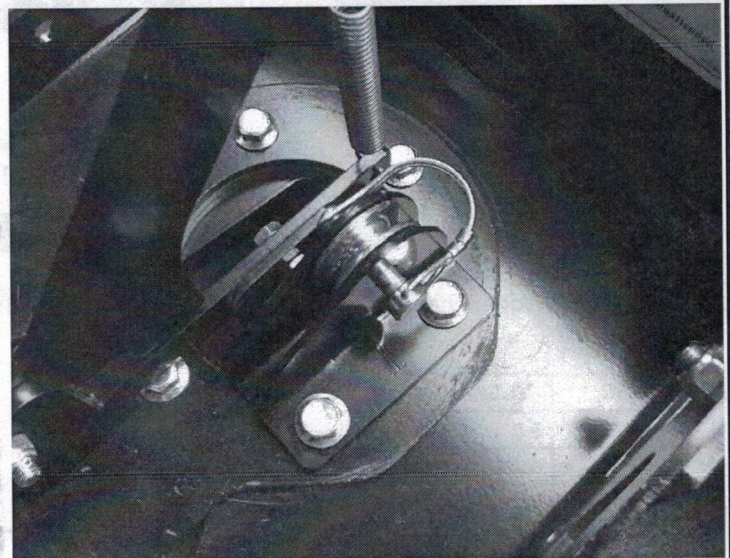

Figure 3
3. Install the pulley in the mounting bracket as shown (Figure 3).